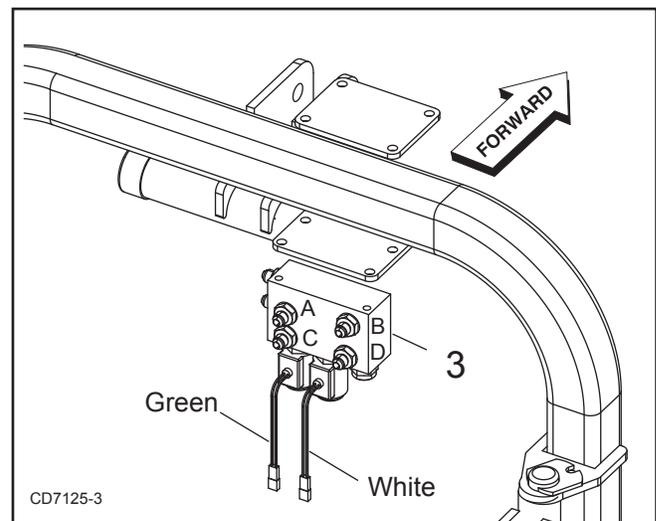

Figure 33. Harness to Valve Assembly Connection
10. Connect green and white wire leads from harness switch assembly to leads on valve assembly (3) shown in Figure 33.